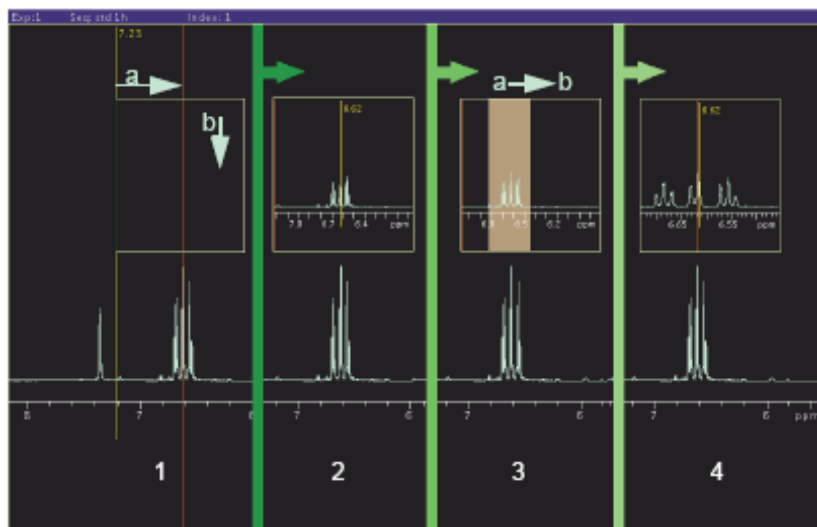

Figure 62 Creating an inset frame
- 3 Place the cursor at the low field (left) side of the region to be expanded as shown in Figure 62 frame 1a.
- 5 Drag the cursor down to set the height of the inset frame as shown in Figure 62 frame 1b.
- 6 Release the mouse button to create the inset frame, see Figure 62 frame 2.
- 5 Place the cursor at the low field (left) side of the region to be expanded as shown in Figure 62 frame 3a.
- 6 Hold the left mouse button down and drag the inset window to the high field (right) side of the region, Figure 62 frame 3b.
- 8 Release the mouse button and the selected region expands to fill the inset box, Figure 62, frame 4.